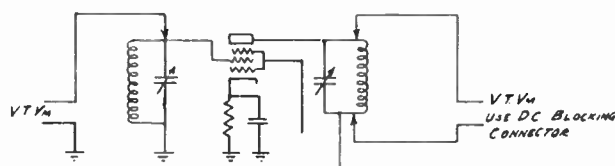

Figure 26
- 5.28—Each individual coil of the receiver may be checked for resonance with its tuning condenser by referring to the circuit of Figure 26. The vacuum tube voltmeter is connected directly across the grid circuit, and the oscillator tuned to the required resonant frequency of the tuned circuit under test. The padder, trimmer or air dielectric condenser should be adjusted until a sharp resonant point is noted on the vacuum tube voltmeter scale. A definite peak indication should be obtained showing that the coil actually resonates and is not just passing energy from previous circuits, the resonant characteristic being proof that the coil and condenser are doing their job correctly.